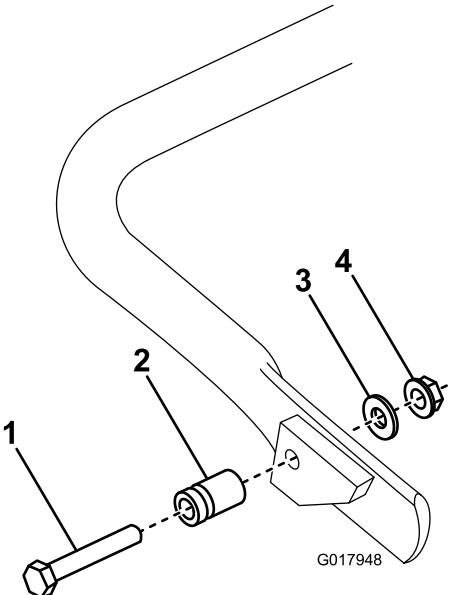

Figure 6
1. On the **GR1600 only**, connect the spring stud to the right hand side of the kickstand (Figure 6) using the bolt, washer, and flange-head nut provided.